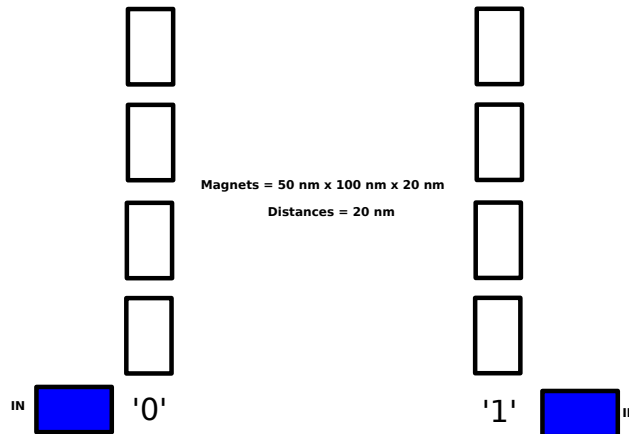

Figure 8: Vertical wire without helper blocks
2. Change the geometry according to Figure 8.